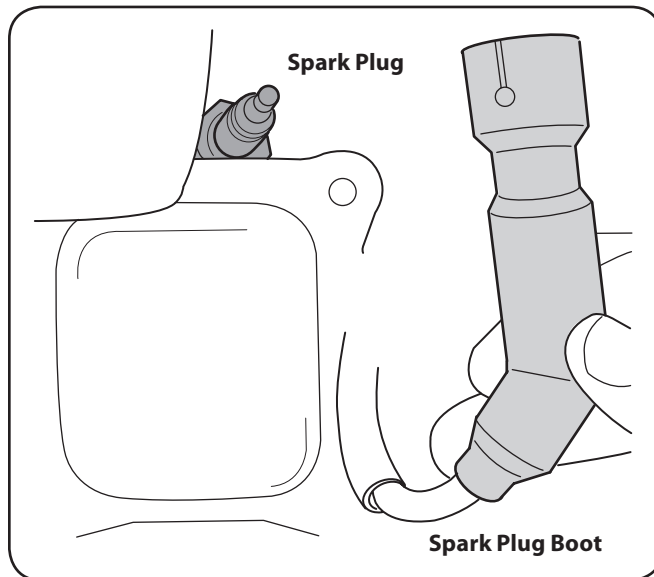

Figure 7-2
1. Remove the spark plug boot and use a spark plug wrench to remove the plug, Figure 7-2.